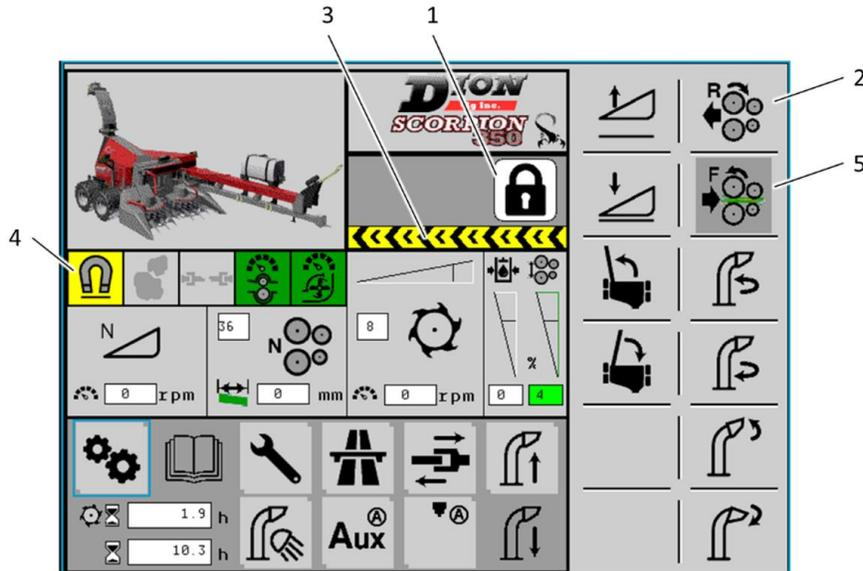

Figure 83 Forward and Reverse Layout
At start-up, the harvester will be in LOCK mode (item 1, FIGURE 83). To allow the machine to operate and initialize the *FerroDtec* metal detector:
2. The harvester will be in LOCK mode (item 1).
3. To enter FIELD mode, press and hold the REVERSE softkey  (item 2).
**NOTE:** A short press will unlock the system. However, to ensure the feed rolls have reversed enough to clear any silage material or any foreign material, the REVERSE softkey must be held and the feed rolls must reverse until the progression bar (item 3) fully clears. Once fully cleared, the metal detector state icon (item 4) will turn green and be totally initialized. The metal detector is still operational if the feed rolls have not been fully cleared.
### LOCK MODE - FIGURE 83